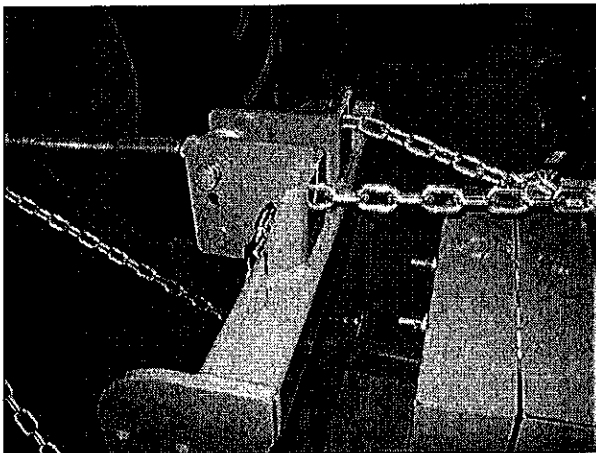

Figure 3
7. Connect the tractor toplinek to the top of the 3 pt. mounting frame. Secure with correct size toplinek pin (figure 3).